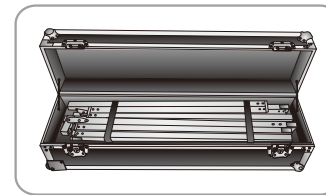
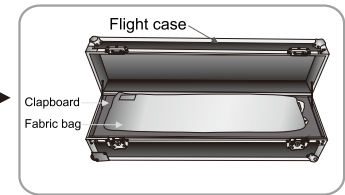

Figure 39
Figure 40
8. Put legs and main frame in the case and fasten them as Figure 39 . Put the accessory bag inside. Place the clapboard in place and put the fabric bag on it ( Figure 40 ).